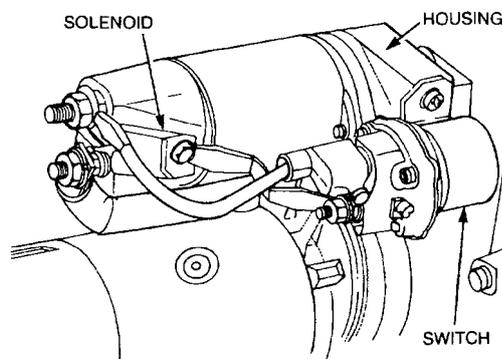

Figure 275 Removing the Solenoid Switch
- c. Remove the screws and washers securing the switch to the housing and remove the switch (Figure 275).
- w. Connect the wire from the switch lower terminal to the solenoid side terminal and tighten the small hexagonal headed screw securely (Figure 275).